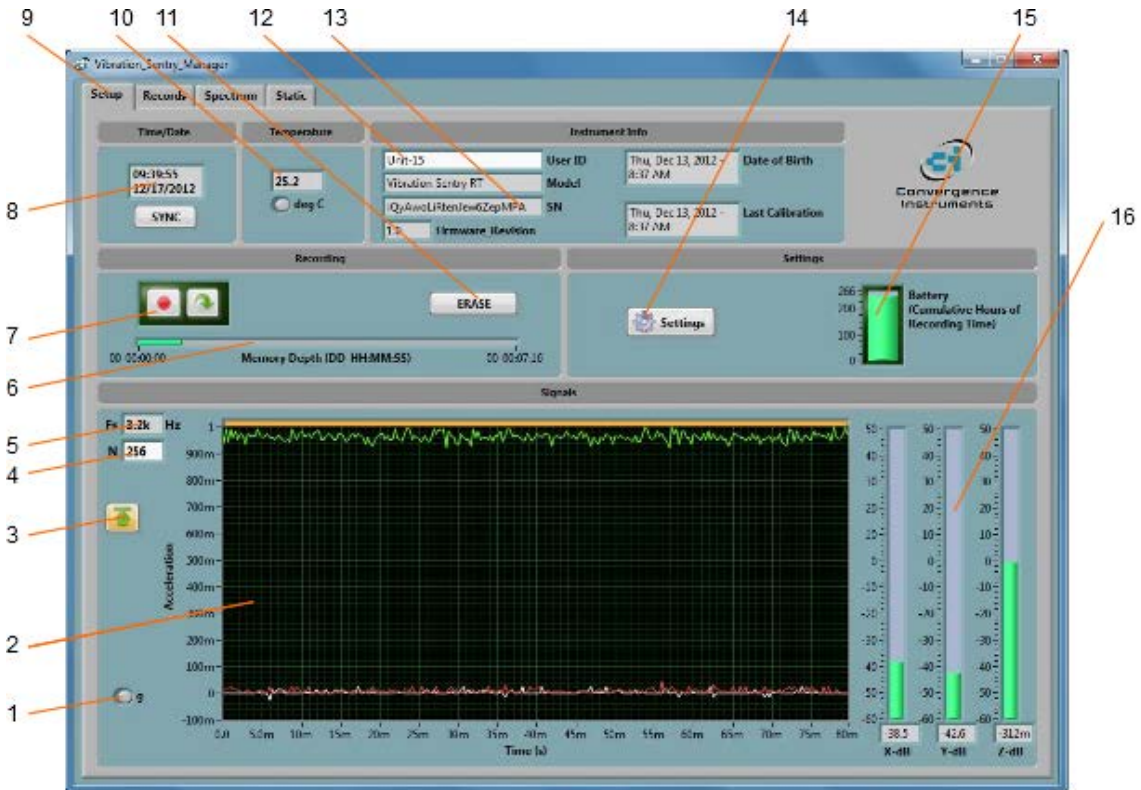

Figure 5 Setup Tab
4. The front-panel described in Figure 5 appears, and the application tries to connect to the instrument. If it fails to find the instrument it indicates *No Device Found*. If this is the case see section Troubleshooting. Otherwise the application immediately starts communicating with the *Vibration Sentry RT*.
- **The Setup Tab:** Is used to setup the instrument and monitor real-time measurements (see Figure 5).
The setup tab is seen in Figure 5. It is divided into six fields.